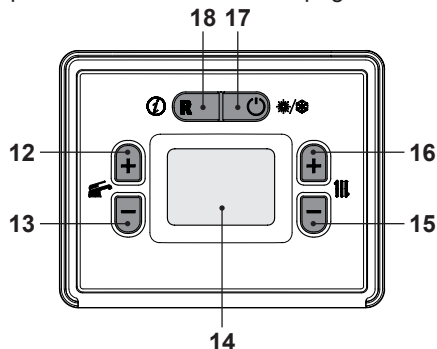

Fig. 8.17
- By using buttons 15 or 16 (Fig. 8.17) it is possible to modify the value of parameter A52:
- Press 12 or 13 (Fig. 8.17) to confirm the value entered and return to the list of parameters (Fig. 8.18).
- Press the 17 button (Fig. 8.17) to exit “programming mode”.